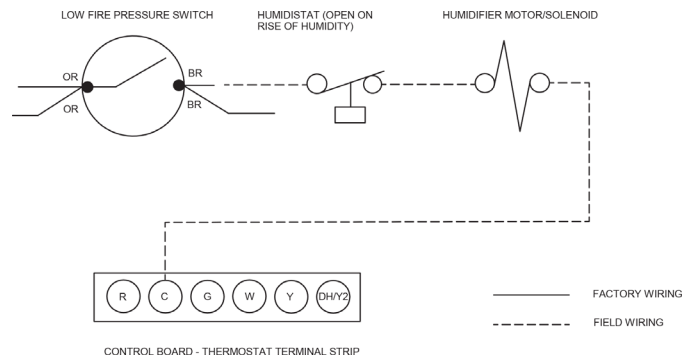

FIGURE 58
- Refer to connection diagram below (Figure 58) and follow humidifier manufacturer instructions.